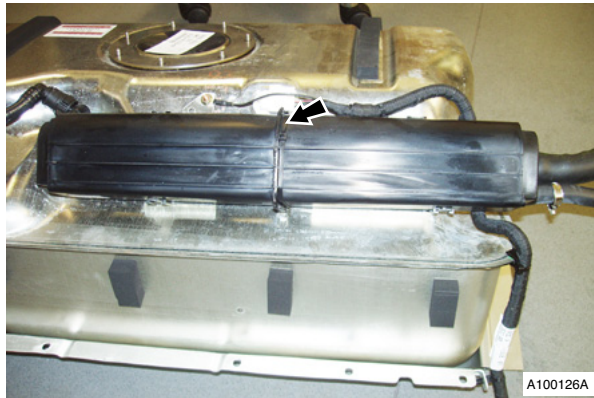

Fig. 11
- Remove cable tie carbon canister to bracket (see Fig. 11).